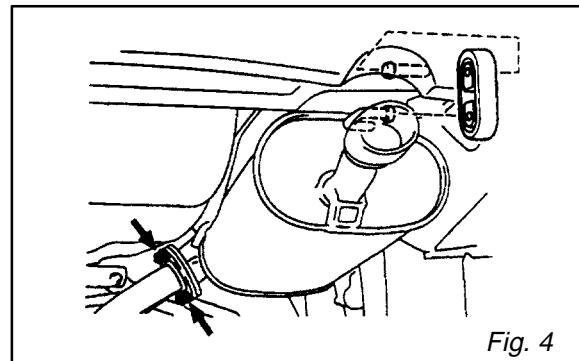

Fig. 4
1. Remove original exhaust pipe support No. 4 then loosen nuts (as indicated by red arrows in figure 4) to turn the flange of the tail pipe.